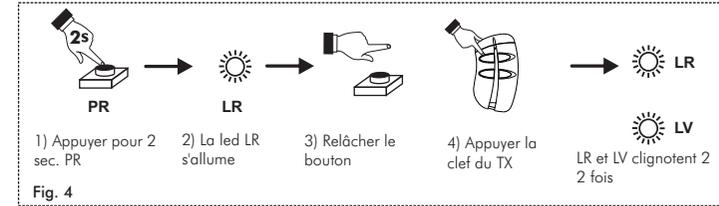

Fig. 4
1) Memorisation of the first transmitter key (Fig.4)